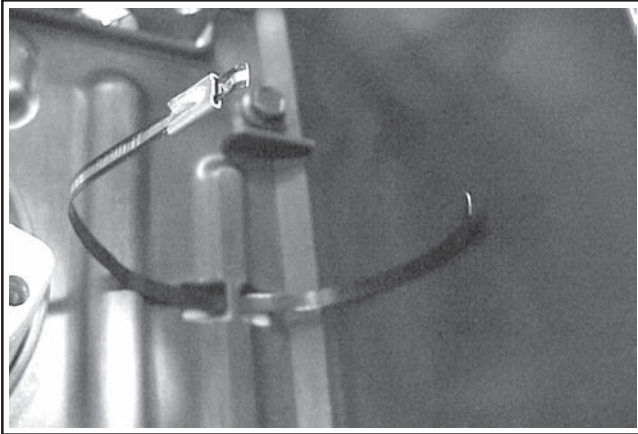

Figure 11-44. Tie Strap in Lower Blower Housing.
2. Insert a new metal tie strap (Kohler Part No. 66 454 01-S) through the slotted opening in lower blower housing, as shown in Figure 11-44. This will restrain the lower hose/tube assembly. **Do not use plastic tie straps**, as adequate tension will not be maintained.